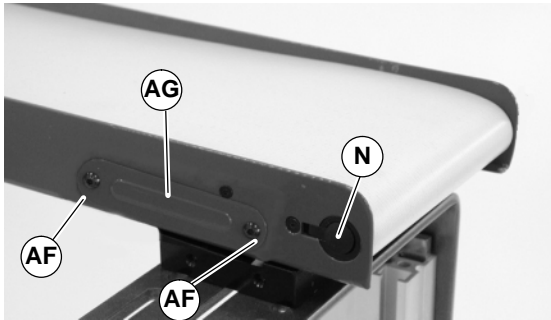

Figure 32
1. Remove screws (AF of Figure 32) and tension pin cover (AG) and plastic plug (N).